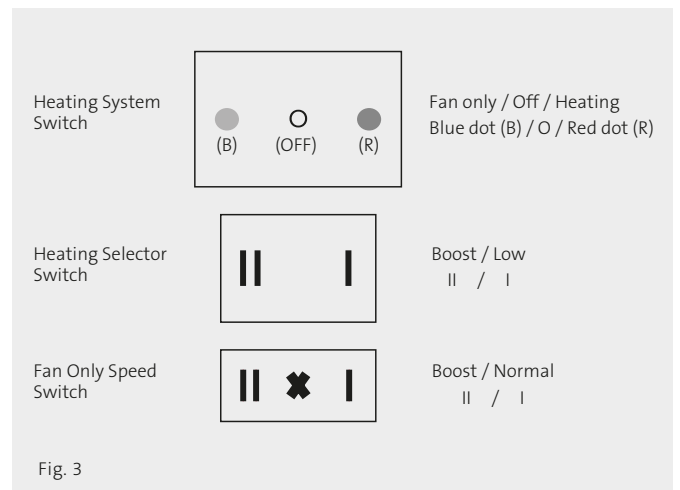

Fig. 3
|  | <p>COMFORT MODE Provides room temperature control for when the room is occupied (see Fig. 3). Heating mode – Electric To enter this mode:</p> <ul style="list-style-type: none"> • Set the fan only/off/heating switch to heating (red dot) • Set the output switch to position I • Select the fan speed switch to position I <p>The unit will now run on low speed. To operate the 500E ECO at 2kW:</p> <ul style="list-style-type: none"> • Set the output switch to position II <p>The unit will now run on high speed.</p> | <p>The display will show the ambient temperature. Press OK, set temperature will begin to blink. Use ◀ or ▶ to adjust the required room temperature. Press OK to confirm. The ambient room temperature will then display.</p> <p>Default setting +21°C Max temp setting +30°C Min temp setting +5.5°C</p> <p>Note: The thermostat has a LED indicator that will change colour depending on the following: ≤21.0°C = Green 21.5°C - 24.0°C = Orange ≥24.5°C = Red</p> <p>NOTE: To see the set temperature simply press ↻.</p> |
- Slutför elinstallationen, slå på och testa OPTIMO 500E ECO (se bild 3).